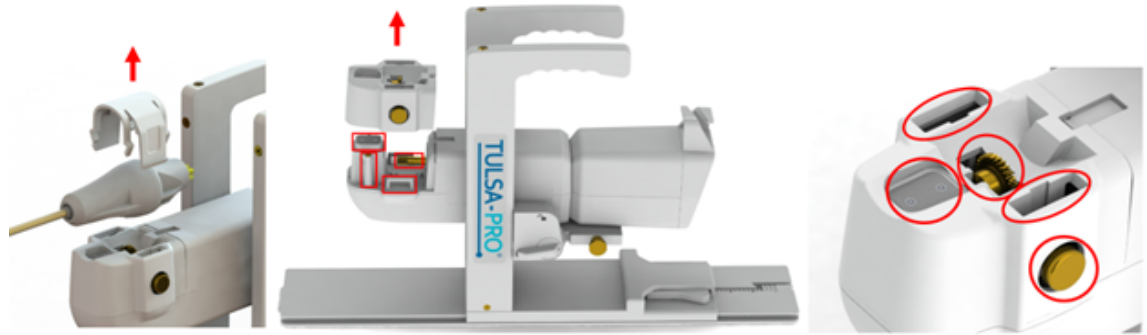

Figure 64: Inspecting the Positioning System
- c. Repeat steps 1 and 2 as necessary until no visible soiling remains, closely inspecting the areas around the gripper and gear (Figure 64).